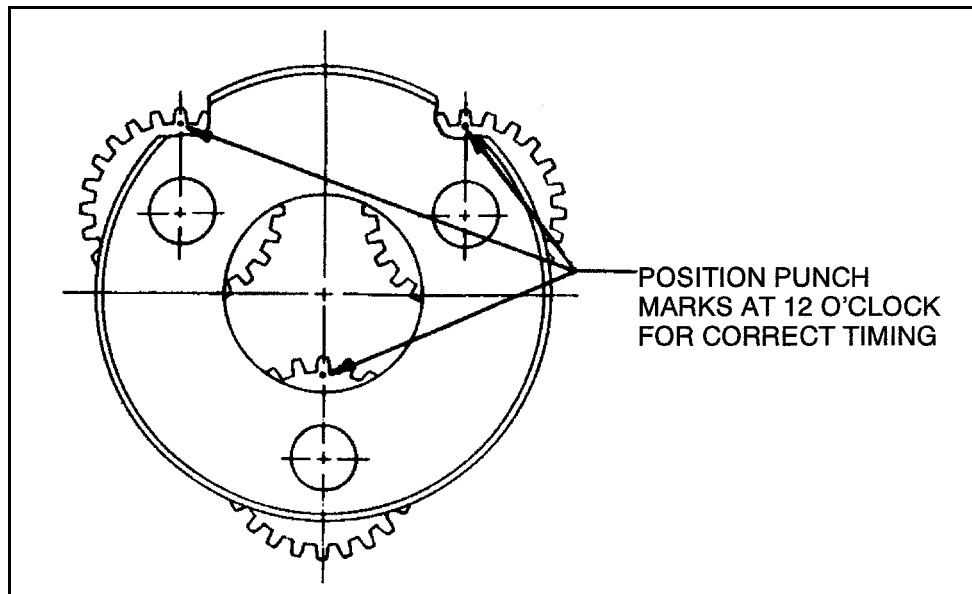

Figure 3-2. Torque Hub Carrier Timing
- a. Place carrier assembly on a flat surface, positioning two top gears at ten o'clock and two o'clock, and one bottom gear at six o'clock as shown in Figure 3-2., Torque Hub Carrier Timing.